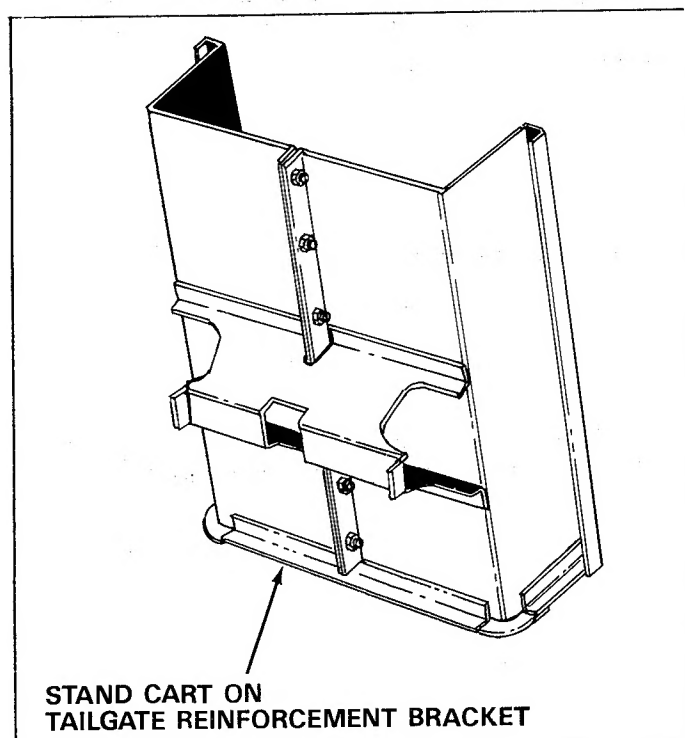

FIGURE 6
11. Reverse the cart position and stand on tailgate reinforcement bracket and proceed with assembly steps 12 through 20. See figure 6.